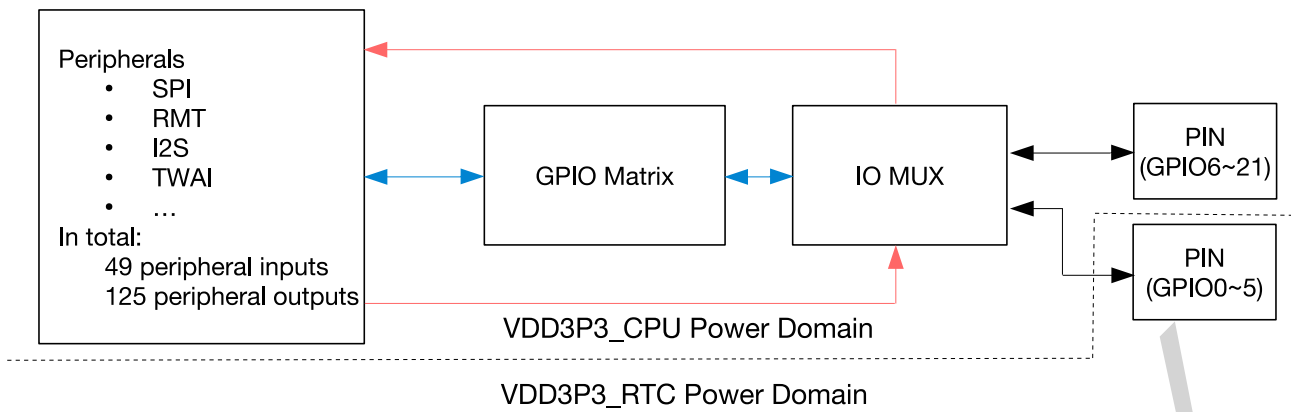

Figure 4-1. Diagram of IO MUX and GPIO Matrix
- Figure 4-1 shows the general work flow of IO MUX and GPIO matrix.